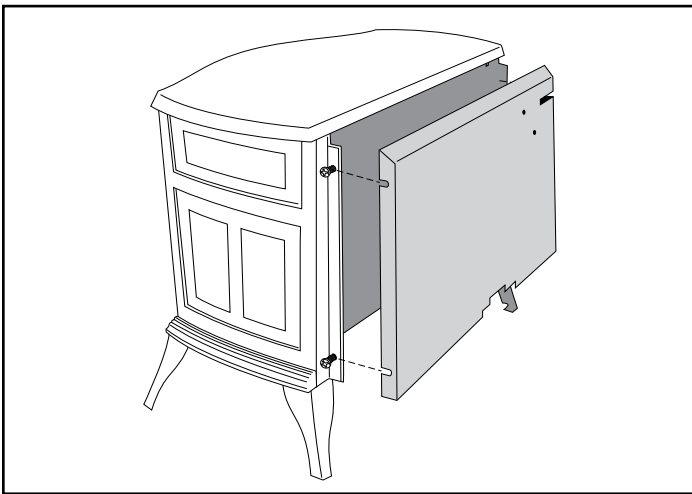
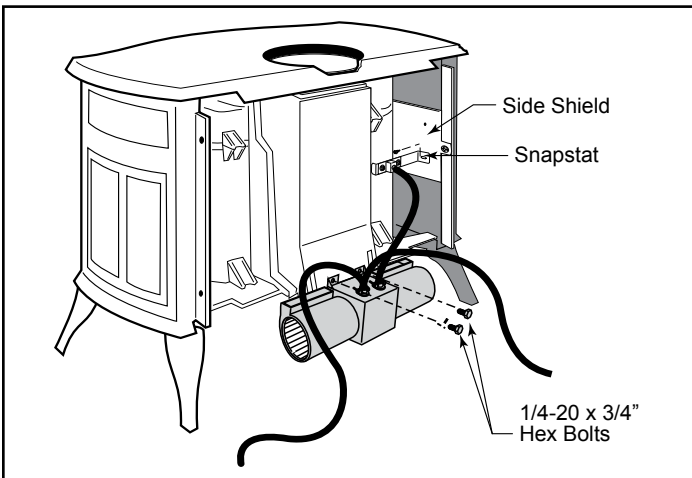

Figure 6 - Remove rear shroud panel.
Figure 7 - Attach fan assembly.
1. Remove the rear shroud panel (Figure 6) and fasten the blower assembly to the firebox back with the two bolts provided. (Figure 7)
2. Attach the snapstat assembly to the snapstat bracket with two sheet metal screws. Attach the snapstat bracket to the side shield. (Figure 7)
1. Remove the rear shroud panel (Figure 6) and fasten the blower assembly to the firebox back with the two (2) bolts provided. (Figure 7)
2. Attach the snapstat assembly to the snapstat bracket with two (2) sheet metal screws. Attach the snapstat bracket to the side shield. (Figure 7)